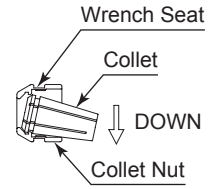
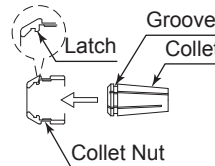
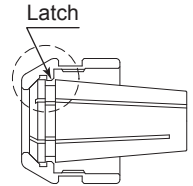

Fig. 6
Fig. 7
Fig. 8
② The collet and collet nut are secured by a groove in the collet and a flange in the collet nut. To remove the collet hold the collet nut in one hand and push diagonally down on the collet. The collet should be released (Fig. 6).
③ To install the collet, hold the collet at a slight angle, and insert it into the collet nut (Fig. 7). Press the collet in the collet nut by positioning the collet in the collet nut and pressing down on flat surface (Fig. 6). Be sure to fully engage the latch inside the collet nut into the groove on the collet's outer circumference area (Fig. 8).